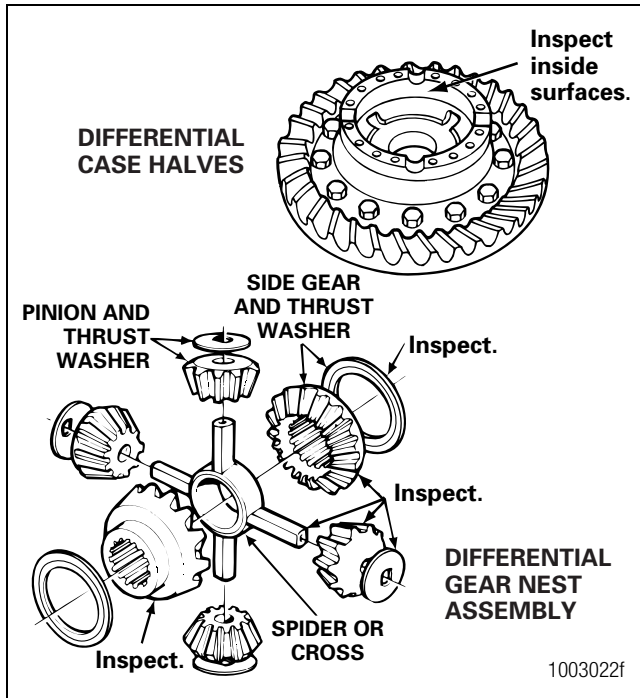

Figure 4.7
3. Inspect the following main differential assembly parts for wear or stress. Replace parts that are damaged. Figure 4.7.